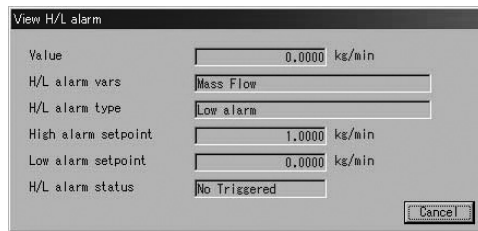

Fig.18
- ④ To hide the message box for process variables, click on "Cancel".
- ① Click on "Process Variables (V)" at top-level menu, select "View H/L alarm", and click on again. A message box for H/L alarm then appears as shown in Fig. 18.